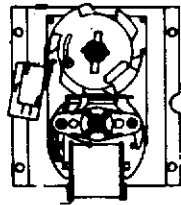
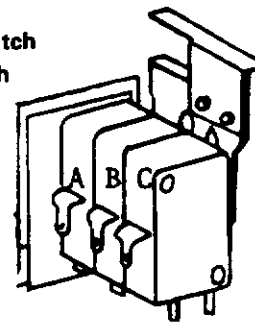

Figure 1
Figure 2
On the inside of the Control Panel, all select buttons and switches are numbered. If not numbered, then Push Button arrangement is as shown in (1) one of the foregoing diagrams, i.e. Figures 1, 2, 3, or 4.
1. See Vend Motor and cluster switches in stand-by position Figure 1 and Figure 2.
- Arm of Vend Motor Switch A is in cam notch - Figure 2
- Arm of Cam Hold Switch B is on top of cam - Figure 2
- Arm of By Pass Switch C is on top of cam - Figure 2